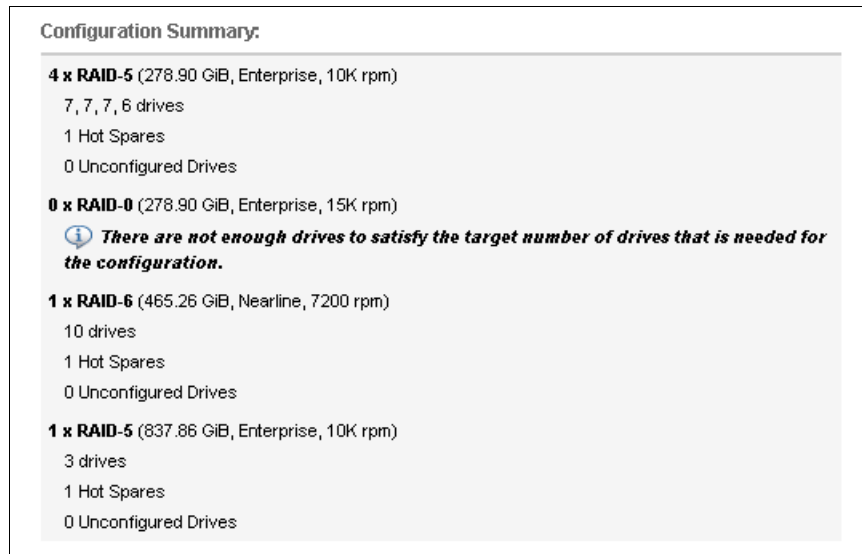

Figure 7-26 The recommended configuration summary
2. In the Configuration Summary section (shown in Figure 7-26 on page 327), the wizard warns that there are not enough disk drives to satisfy the target number of the drives needed for the configuration, as follows:
- Therefore, the wizard automatically creates several MDisks, as shown in Figure 7-26.